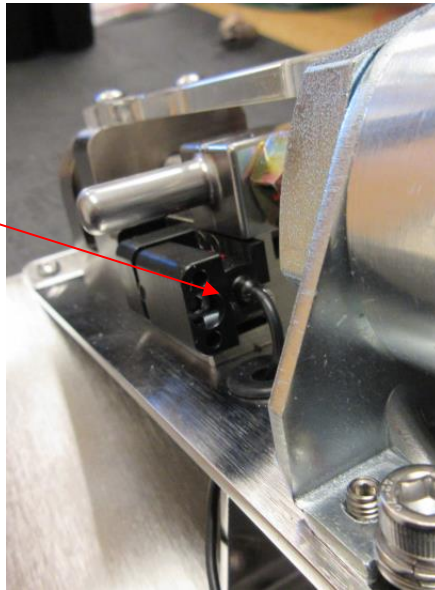

Figure 7: Sensor Adjustment Screw
- If adjustment of sensor position is desired, use a 3mm hex wrench to turn the adjustment screw shown below in figure 7. Turning the sensor adjustment screw clockwise will move the sensor line closer to the jaws, while counterclockwise moves the sensor line away from the jaws.